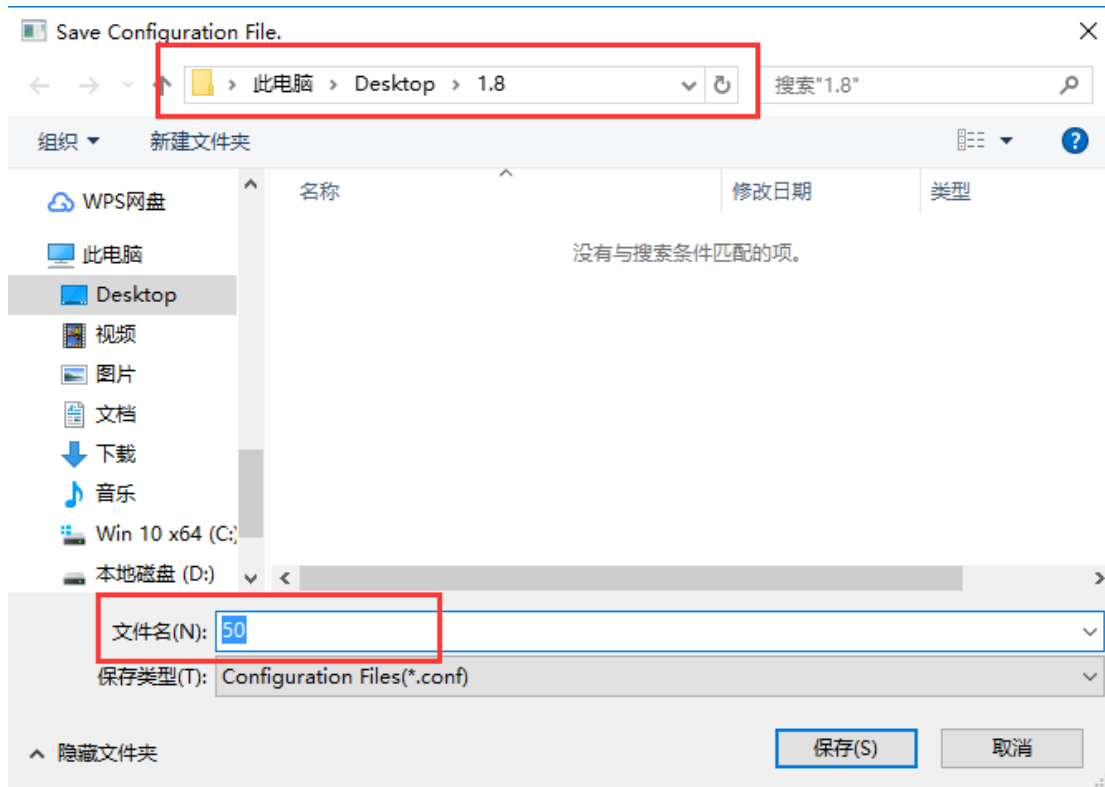

Figure 10. Save configuration file
- (1) Click "Export" to export the parameter data.
- (2) Save the file to computer in any route or name as shown in Figure 10.